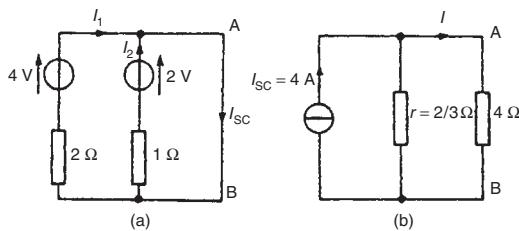

Figure 13.57
- (i) The 4Ω branch is short-circuited as shown in Fig. 13.57(a)
- (ii) From Fig. 13.57(a),